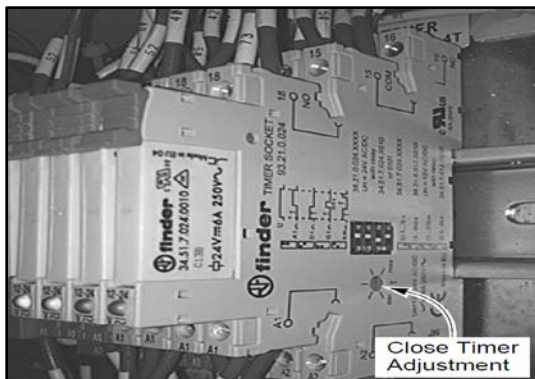

Figure 43
3. To adjust the T4 auto close timer turn the dial on the side clockwise to increase time and counterclockwise to decrease the auto close timer. (See Figure 43)